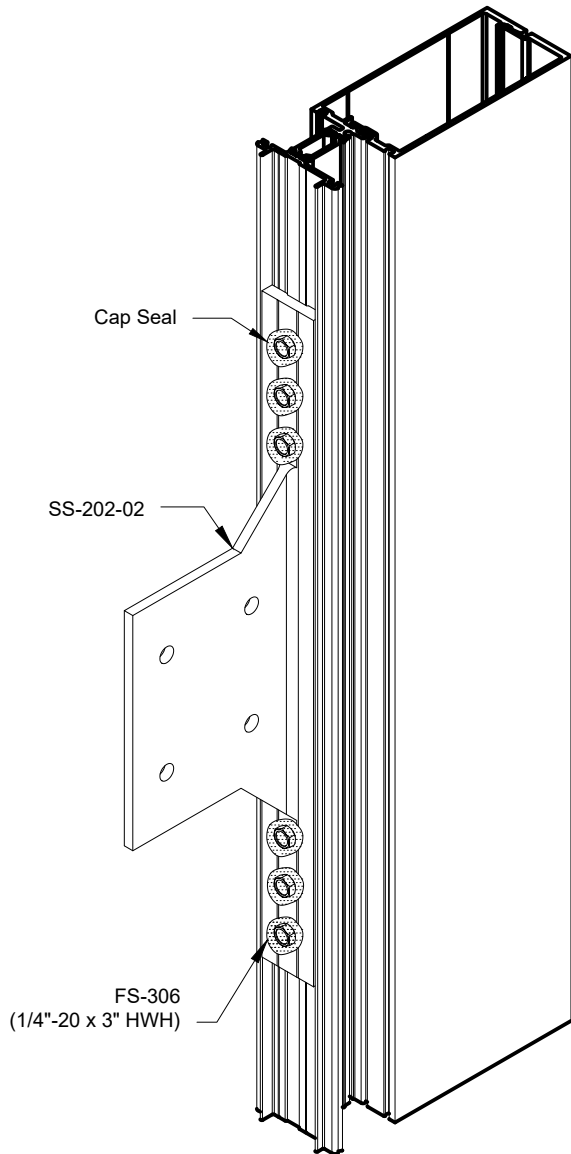

Figure 50
- 6) Cap seal fasteners at sunshade anchor. See FIGURE 50.